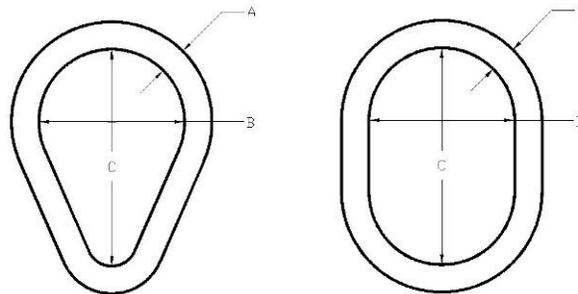

Figure 11. Dimension for Pear Link and Oblong Link.
- b. Check dimensions for deformations, see Table 4 and Figure 11.